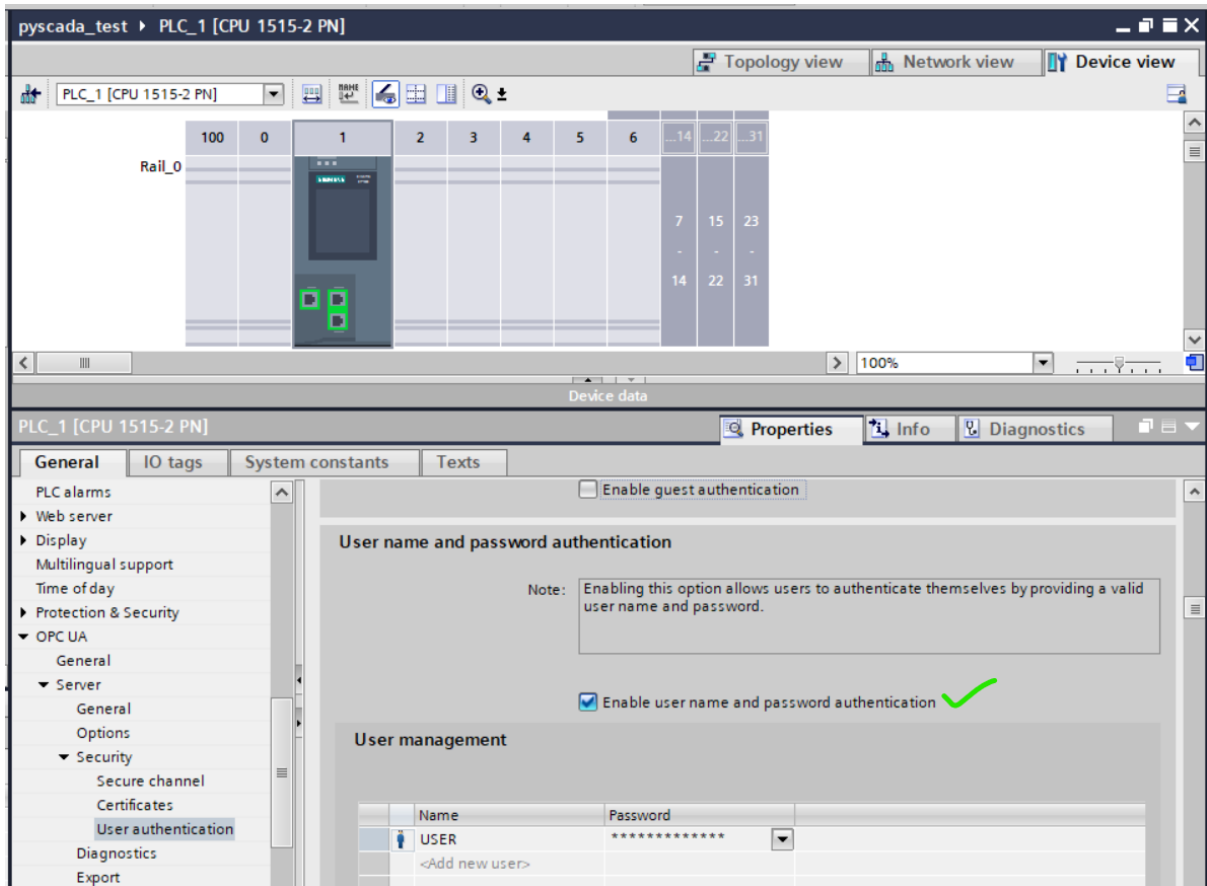

Fig:6
- Under the Properties section of General Section of Device, Select the security with user authentication Enable option and add User id and Password (fig6).